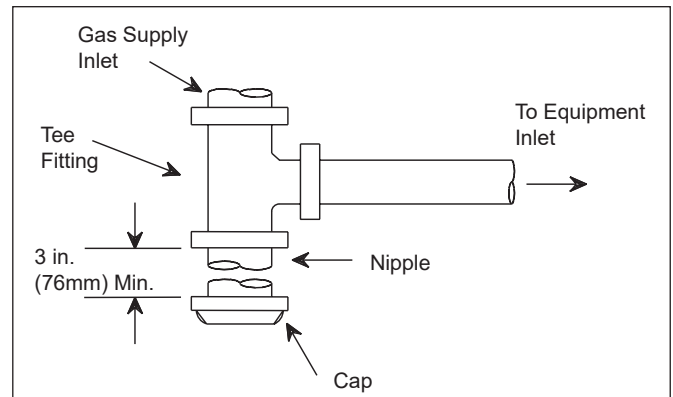

Figure 11. Typical design for a sediment trap/drip leg.
- A sediment trap (drip leg) must be installed ahead of the gas controls (**see Figure 11**). Fit the trap with a threaded cap which can be removed for cleaning.